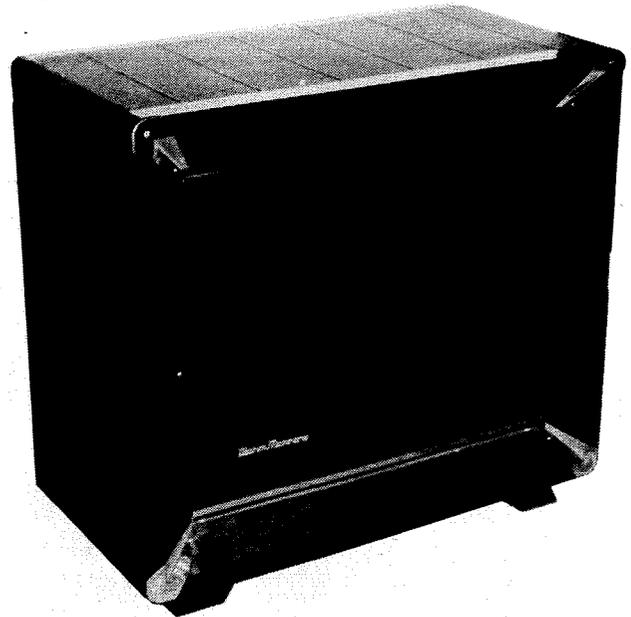

Fig. 27. Warm Morning Model 701 automatic circulating heater.
8. **Locke Stove Co.** (manufacturer), 114 W. 11th St., Kansas City, MO 64105. An electric blower is offered as an option on the Warm Morning (Fig. 27 and Table 3). The thermostat controls the primary draft, and the cabinet is finished in dark brown. Discounts are available.